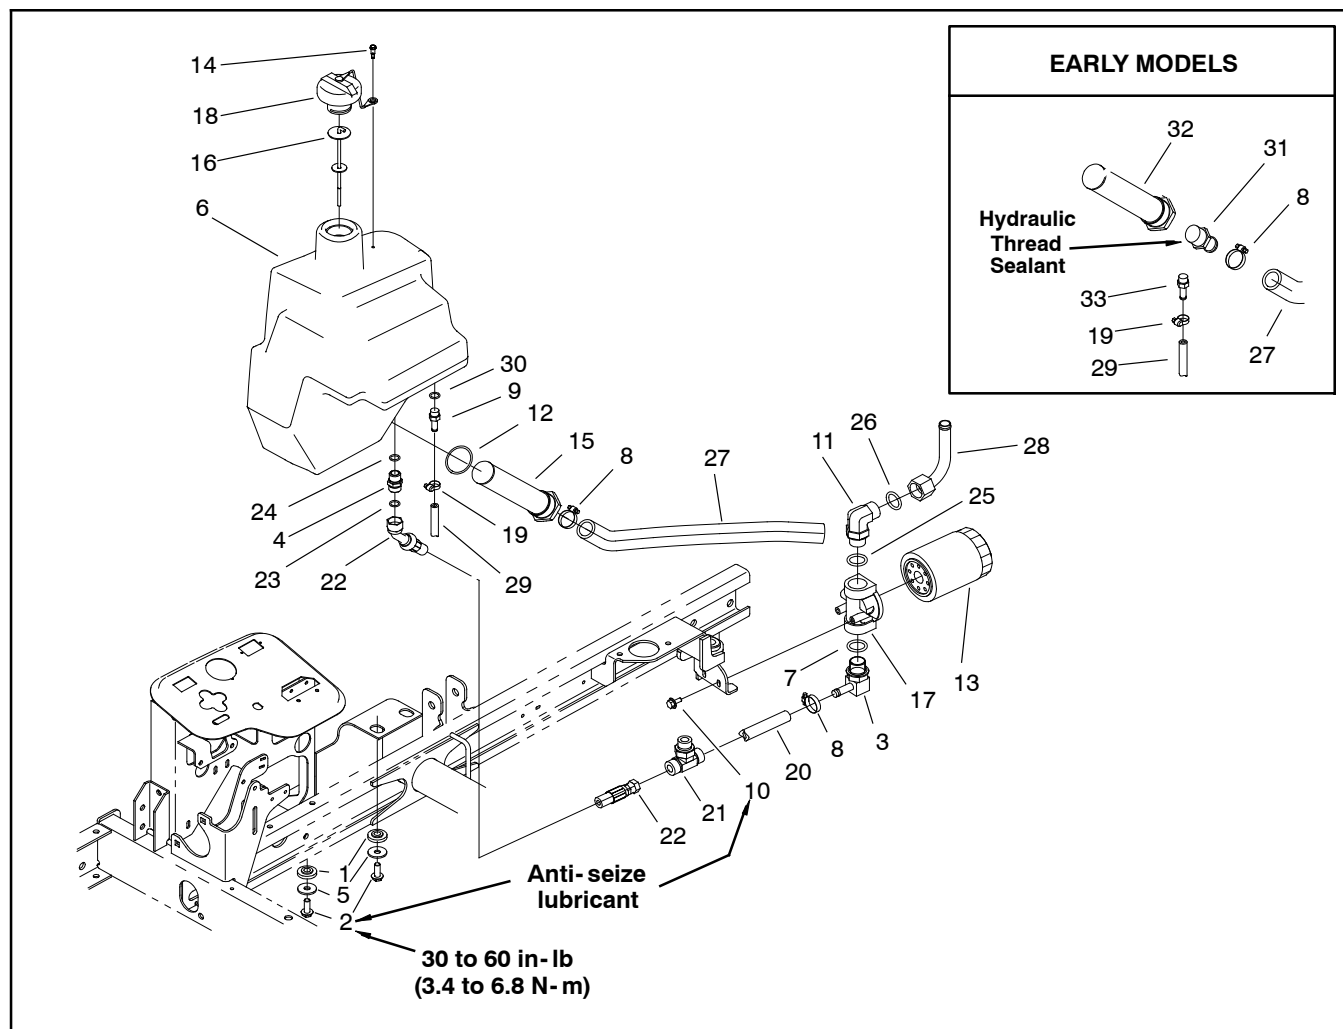

Figure 78
2. Remove hydraulic tank using Figure 78 as a guide. Discard and replace any O-rings that are removed.
### Hydraulic Tank Inspection (Fig. 78)
1. Apply anti-seize lubricant or equivalent to the two flange head screws that secure the hydraulic tank. Tighten the tank mounting screws from 30 to 60 in-lb (3.4 to 6.8 N-m). Install tank using Figure 78 as a guide.